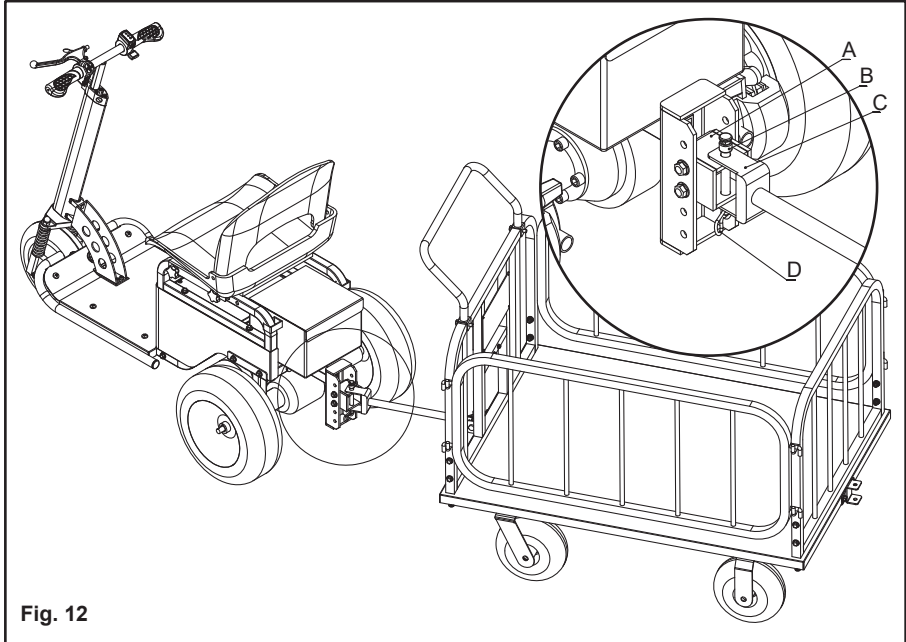

Fig. 12
*** Tow Bar Connection (See Fig. 12)**